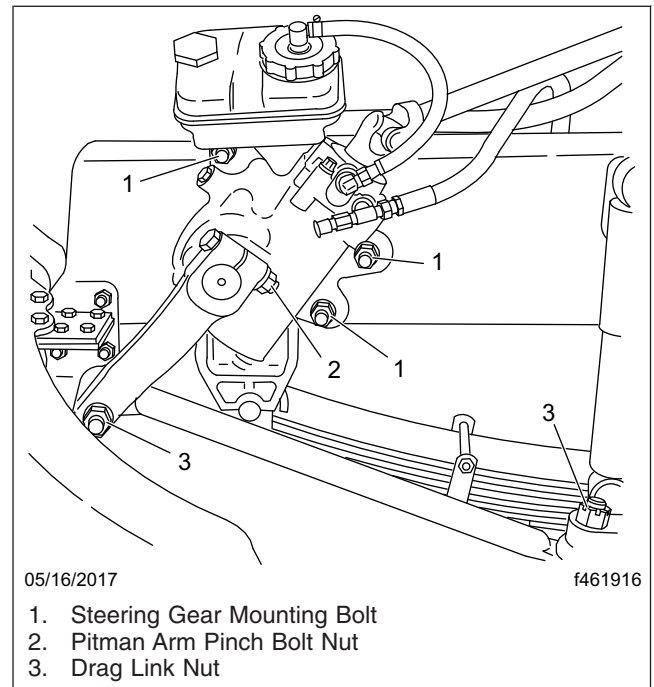

Fig. 11.14, Steering Gear Fasteners
5. Inspect the steering components. See Fig. 11.14.